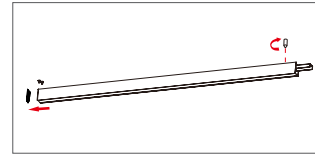

FIGURE 2-2
- II. For Middle-of-Run, remove both end caps. Insert the joiner and secure with screw. (Figure 2-2)